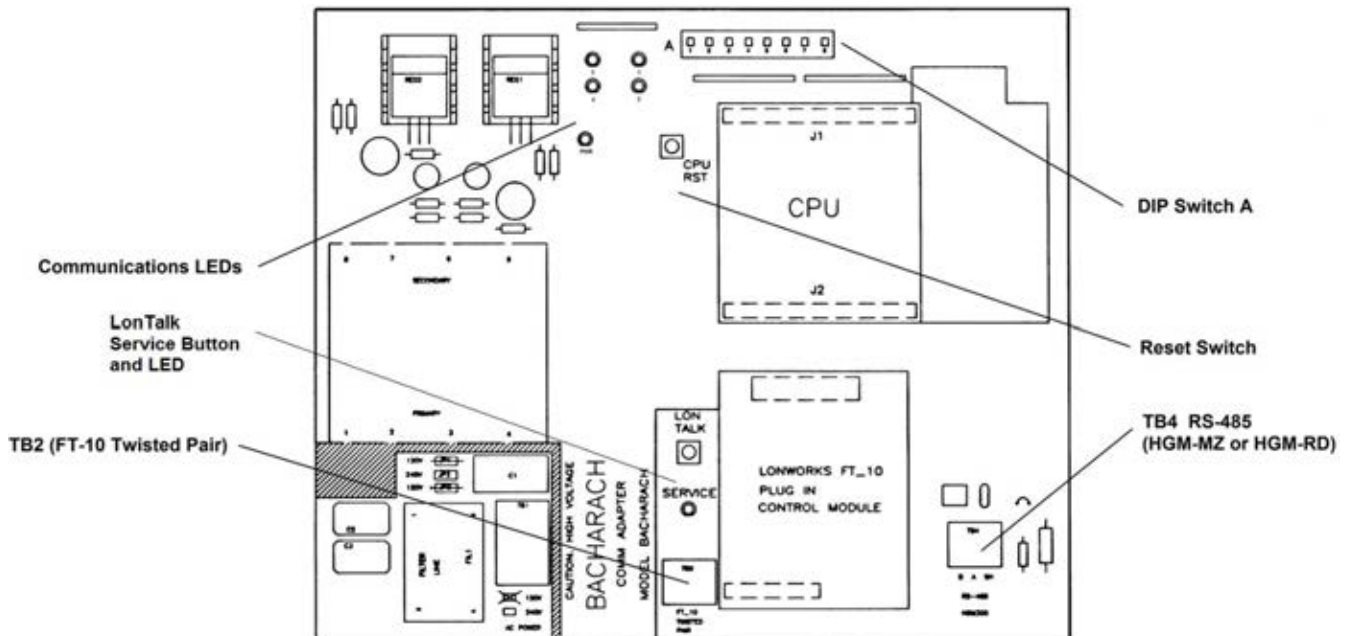
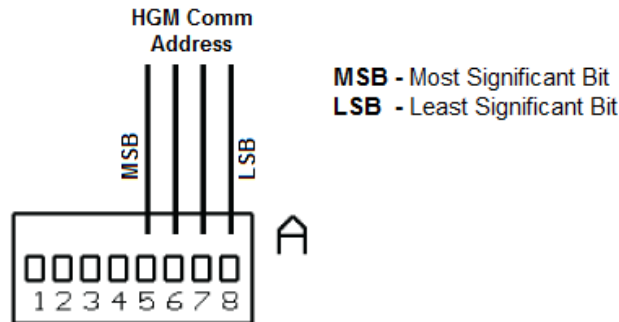

Figure 1 – HGM-MZ-to-LonWorks FT-10 Communications Adapter
Figure 4 – Address DIP Switches
See Figure 4 for details of DIP switch A. Refer to Figure 1 for the location of DIP switch A.
1. If the network management software supports identification by service PIN, the adapter's service pushbutton (directly above the FT-10 twisted pair terminal block—see Figure 1) can be pushed when the network management software requests it. This causes a "here I am" message to be broadcast which should be received by the network manager.